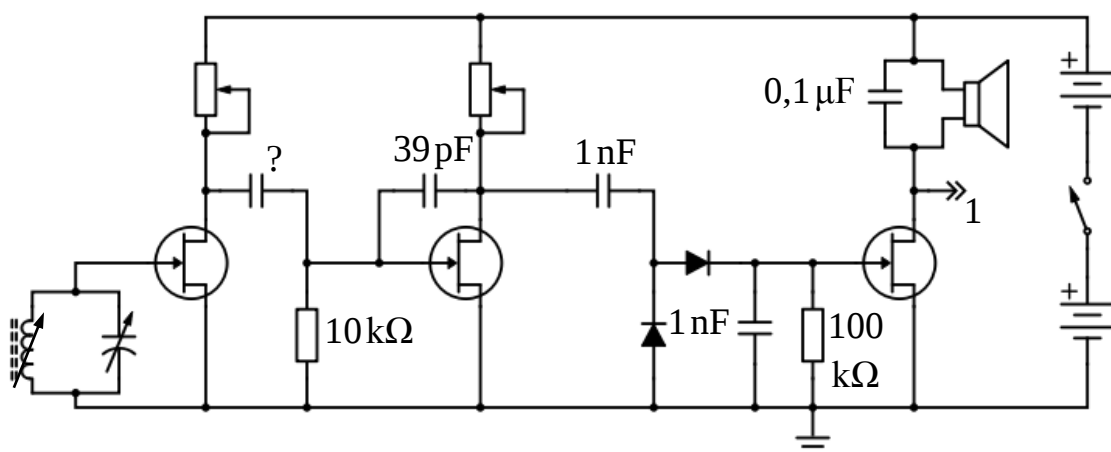

Fig. 25. Setting up low frequency amplifier and headphones of the receiver.
Connect the low frequency (LF) amplifier to the detector output as shown in Fig.25. Sketch a waveform of the signal at the output of LF amplifier. Disconnect the $0,1 \mu\text{F}$ capacitor in the circuit of the transistor drain of the LF amplifier and sketch the obtained waveform of the signal at the output of LF amplifier. Show clearly the difference in the signals on the drawing. Calculate the magnitude of the impedance of the headphone and the capacitor at an audio frequency of 1 kHz and at 500 kHz (close to the carrier frequency).